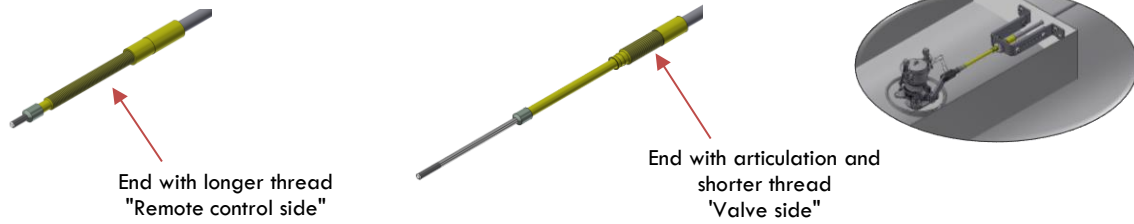

Figure 4
-Take the end of the cable with the articulation and shorter thread for the valve side Fig.4.